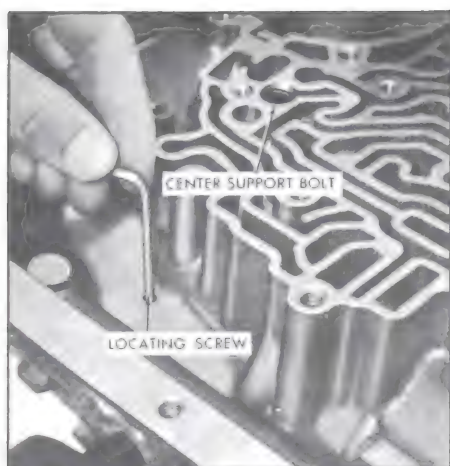

Figure 5-696
10. Install center support locating screw, then install the case to center support screw. See Figure 5-696.